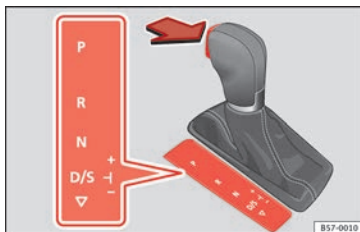

Fig. 166 Selector lever lock.
- Press the brake pedal *and*, at the same time, hold the lock button in the direction of the arrow »» Fig. 166.